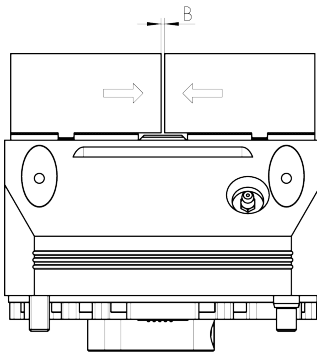

Fig. 1: "Closed" clamping force block - Teach position 1, O.D. clamping
- Using a suitable measuring device (e.g. measuring caliper), determine dimension B between the jaws in units of (mm), cf. Figure 1, and write this as the new value of the acyclic parameter "Teach position 1 - jaw (measured jaw opening width)" to index 101.